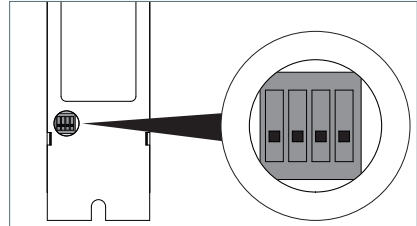

Fig. 28: DIP switch position for the Simple Single Control function
- ▶ Set the DIP switches no. 1, no. 2 and no. 3 to the "OFF" position, see Fig. 28.